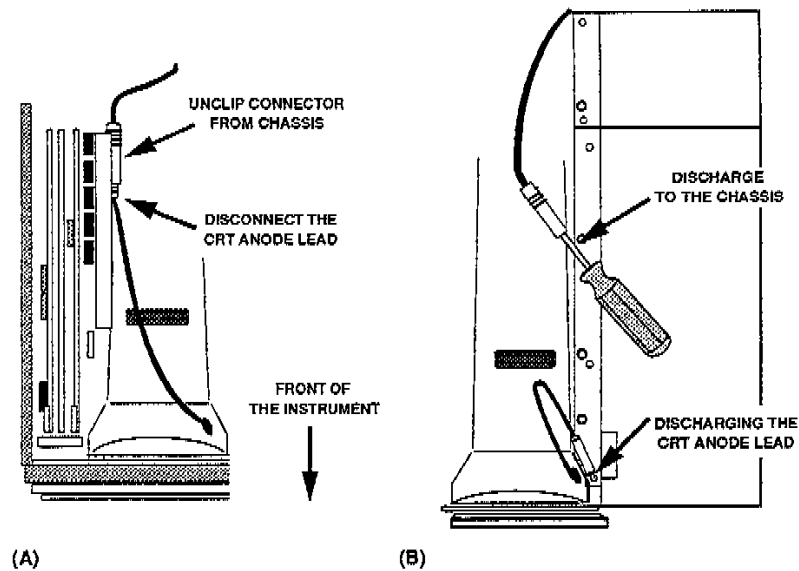

Figure 4-25. Discharging the CRT anode lead to the chassis.
1. Disconnect the ceramic connector above the CRT, refer to Figure 4-25 (A).
3. Insert the metal end of the male connector into one of the empty holes at the top of the card cage, refer to Figure 4-25 (B). Be certain the metal connector is touching the chassis.
4. Insert the blade of an insulated screwdriver into the female connector and short the blade to the chassis, refer to Figure 4-25 (B).